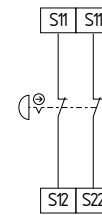

Fig. 6
**Dual-channel emergency stop circuit with command devices to DIN EN ISO 13850 (EN 418) and EN 60947-5-5 (Fig. 6)**